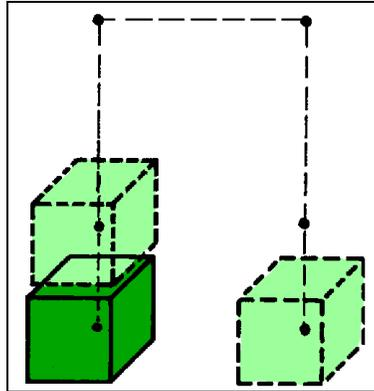

Figure 9-5
- 10 Edit program *USER9C*, so the robot will pick the block from B and stack it on top of the block at A as shown in Figure 9-5.
- Q Summarize the recommended method for recording a relative position (on the Z-axis) for a stacking operation (hint: refer to Figure 9-5).